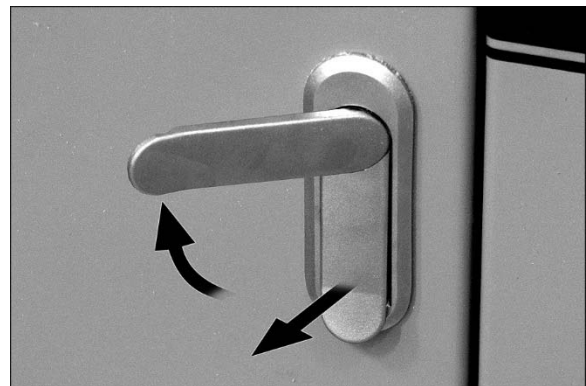

Figure 15
Open cabinet by pulling latch outward and rotating left, as shown in Figure 15.
Rotate conveyor speed dial (C, Figure 15) clockwise to start and increase speed of conveyor. – *Racetrack (G) will illuminate and run. Conveyor speed will show inside racetrack.*